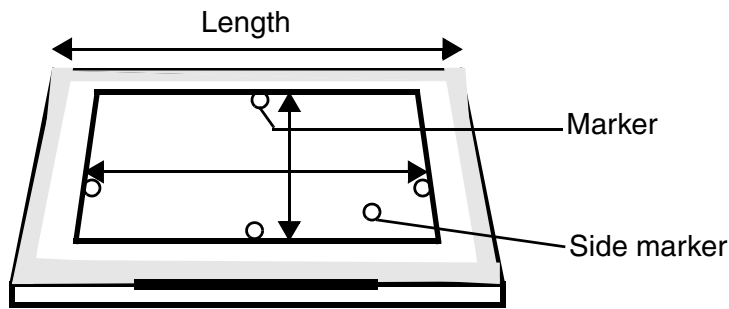

Fig. 16
- Apply radiopaque markers (e.g. washers, coins) as shown in Fig. 16 .